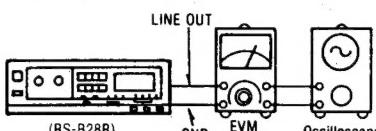

Fig. 2
1. Make connections as shown in fig. 2.
1. Test equipment connection is shown in fig. 2.
1. Test equipment connection is shown in fig. 2. 2. Playback standard recording level portion on test tape (QZZCFM 315Hz) and, using EVM, measure the output level at LINE OUTs. 3. Make measurements for both channels.